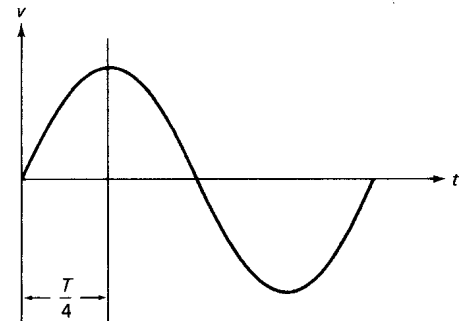

Fig. 5-12
- (a) It will take one quarter period for the wave to go from zero to a peak. See Fig 5-12. First determine the period and then determine one quarter of the period.